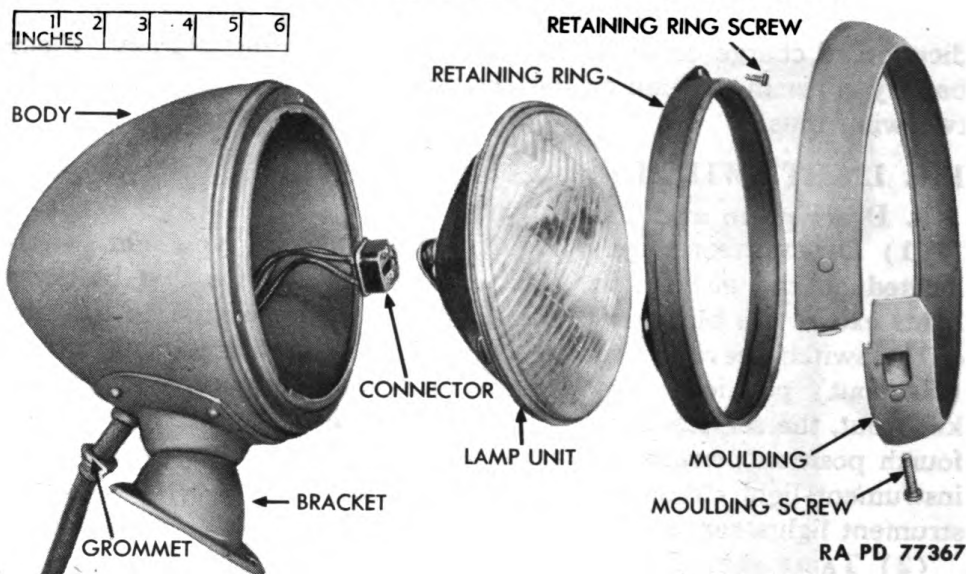

Figure 107 - Headlight Disassembled
(1) DESCRIPTION (fig. 107). Two headlights are provided. They
(1) REPLACE SEALED-BEAM UNIT (fig. 107). Loosen molding screw and pull molding from body. Remove the three retaining ring screws and lift retaining ring from body. Carefully pull sealed-beam lamp unit a few inches from body, and pull connector from prongs on sealed-beam unit. Push connector onto prongs on back of new sealed-beam lamp unit. Place unit in position within body. Position retaining ring in body and install the three retaining ring screws. Push molding onto body and tighten molding screw.
(1) DISCONNECT AND FREE WIRES (fig. 107). Remove adjacent cowl opening door (fig. 1). Disconnect wires from junction block immediately below opening. Pull cable from opening on inside fender skirt. Remove cable clip from brush guard bolt. Slide grommet, which protects cable from fender, out of fender and up on cable.
(2) DETACH LIGHT (fig. 107). From under fender, remove headlight nut and lock washer. Lift headlight from fender.
(1) ATTACH LIGHT (fig. 107). Place headlight in position on its
(2) **POSITION WIRES** (fig. 107). Push wires down through hole in fender. Work grommet down on cable and into position around cable within hole in fender. Push wires into opening in inside fender skirt. Install wire clip on brush guard bolt.
(3) **CONNECT WIRES** (fig. 107). Work through cowl opening. Connect wires to junction block terminals so that colors of wires match colors of other wires leading to respective terminals. Ground black wire to junction block mounting screw.